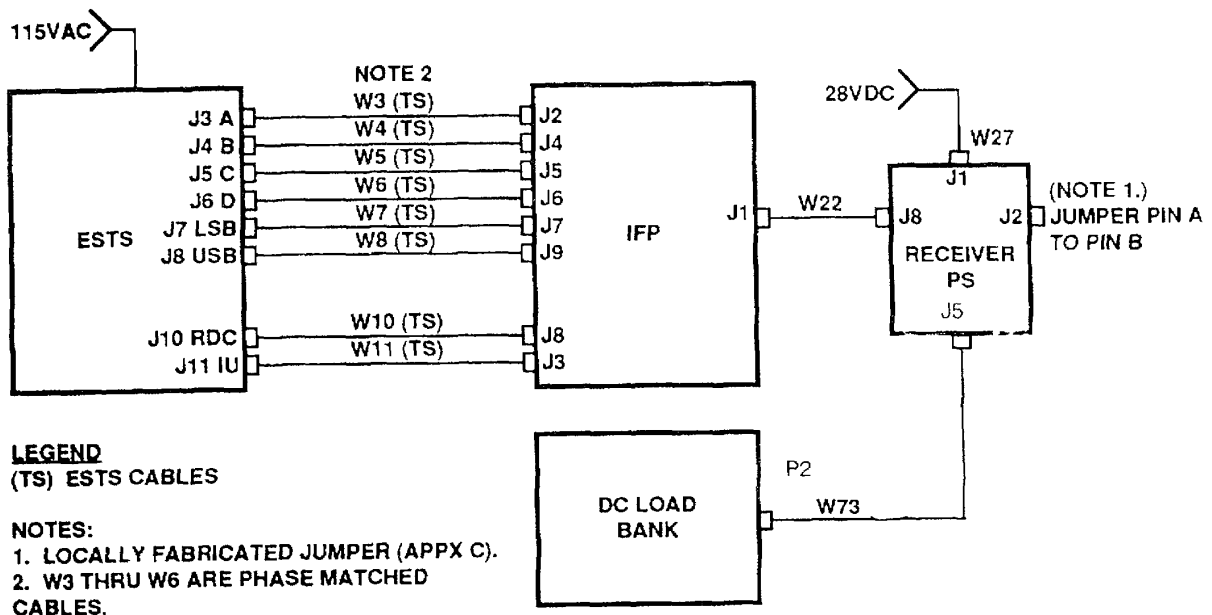

FIGURE 5-1. IFP INITIAL TEST SETUP
- c Connect test setup (fig. 5-1)
ap Calibration complete. Restore ESTS connections as in figure 5-1.